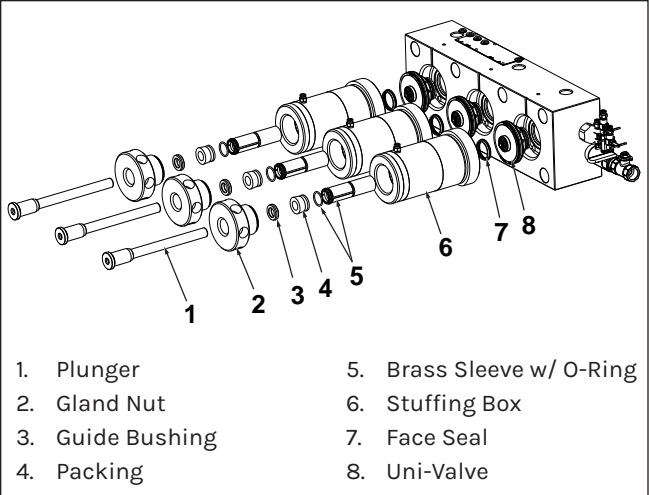
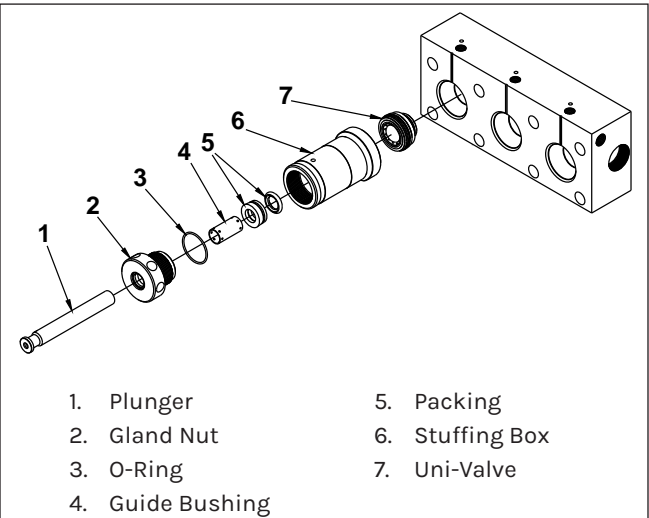

Figure 91: 15K/20K Fluid End (Some Components Not Shown).
Figure 92: 40K Fluid End (Some Components Not Shown).
**Note:** On 40K fluid ends, the brass sleeve (Figure 91) inside the stuffing box does not need to be removed unless the plunger shows evidence of rubbing on the sleeve.
- 11. Remove the O-ring (Figure 92) from the gland nut.
3. Place the new packing and guide bushing onto the plunger. Orient the packing as shown in (Figure 91) for 15K/20K and (Figure 92) for 40K.